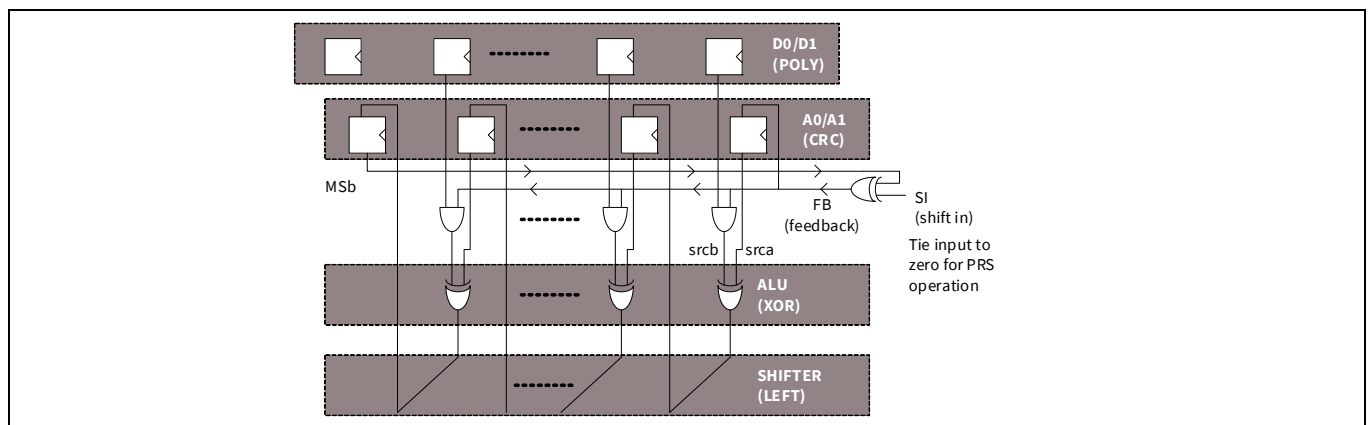

Figure 34-18. CRC functional structure
Figure 34-18 shows the structural configuration for the CRC operation. The PRS configuration is identical except that the shift in (SI) is tied to '0'. In the PRS configuration, D0 or D1 contain the polynomial value, while A0 or A1 contain the initial (seed) value and the CRC residual value at the end of the computation.